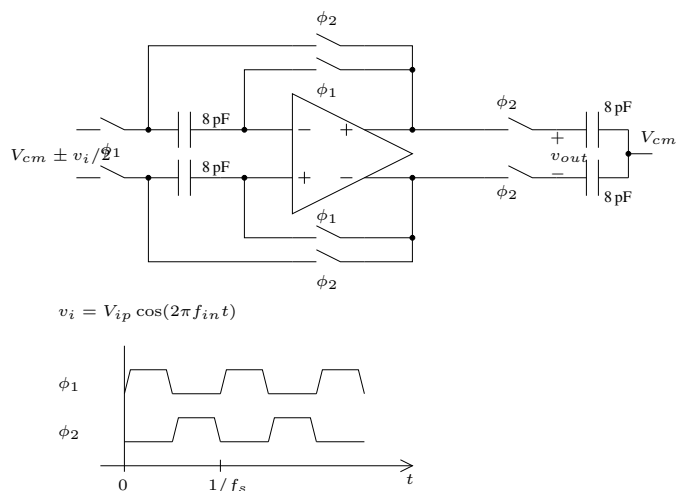

Figure 7: Sample and hold circuit
1. **Sample and hold:** Design the sample and hold circuit in Fig. 7 using the fully differential folded cascode opamp designed above. Use ideal switches with $1\text{ k}\Omega$ on resistance. Use $f_s = 4\text{ MHz}$ and $f_{in} = \{1/4, 9/4\}\text{ MHz}$ (sinusoidal input with 1.6 Vppd^3 amplitude) and plot the output waveforms. Provide a plot that shows the settling behavior of the opamp.